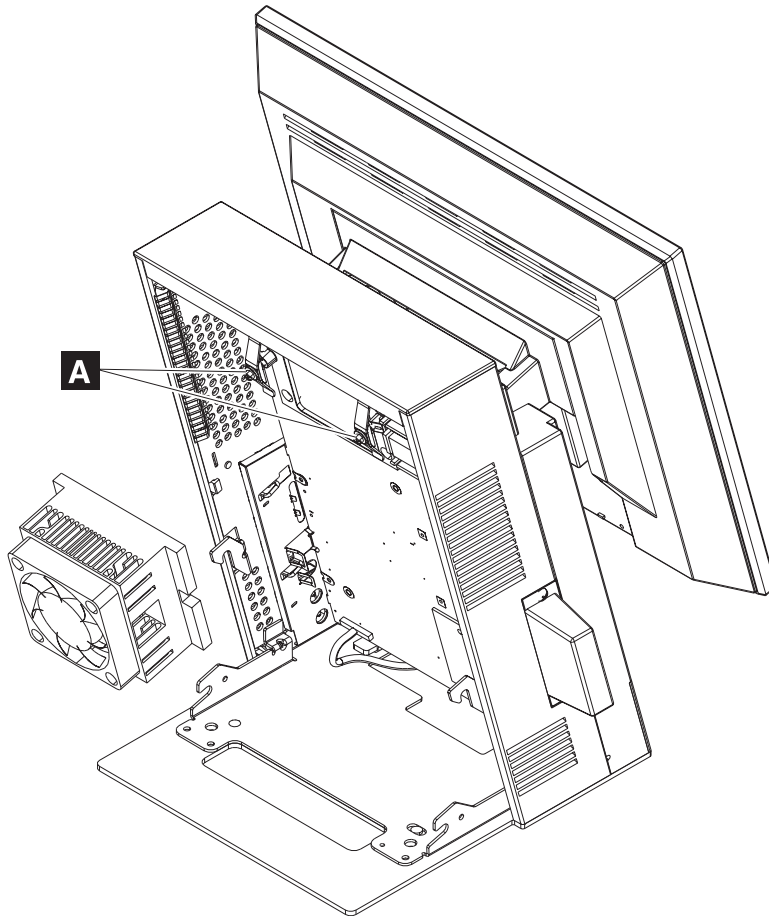

Figure 48. Removing the fansink
Use the following steps to replace the fansink. Refer to Figure 48 on page 70.
5. See Figure 48 on page 70. Loosen the two screws **A** and pivot the clips to the side.
6. Remove the fansink from the processor by twisting slightly to break the thermal material bond. Pulling the heatsink up might pull the processor free from the system board. See Figure 48 on page 70.
6. See Figure 48 on page 70. Loosen the two screws **A** and remove the fansink from the processor.